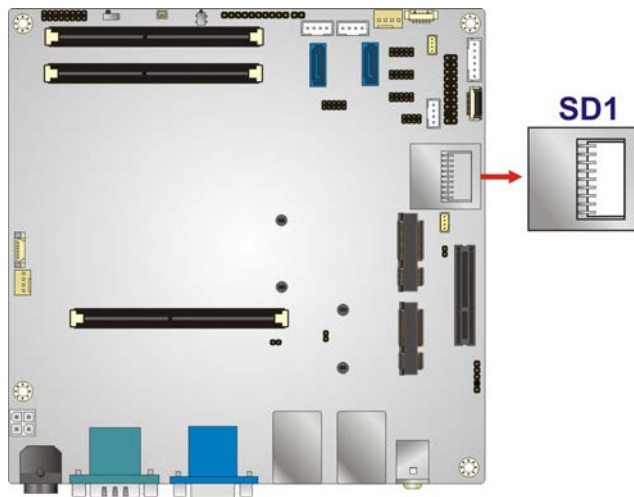

Figure 3-22: SD Card Slot Location
- CN Location:** See **Figure 3-22**